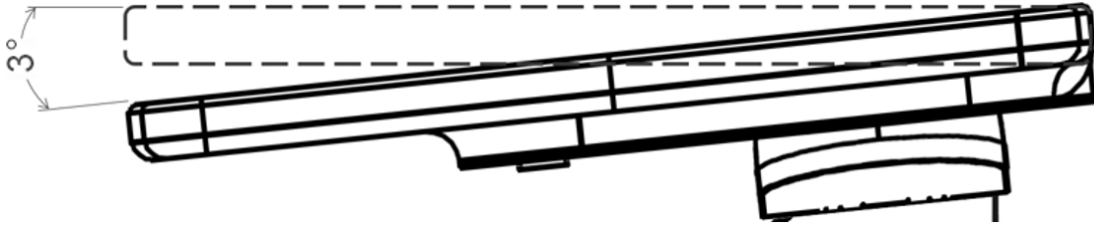

Figure 13: Tilting the ODU forward to 3-degrees
9. The stanchion is adjustable and allows for pivoting around the lower bolts. These bolts were installed first in step 6 when connecting to the mount and left loose enough to allow pivoting. The curved slot in the center of the stanchion on either side controls the angle of the stanchion, which can be locked in place using the proper bolts. The ODU requires 3-degrees of forward tilt where forward is the direction away from the bridge along the short side of the panels (shown in Figure 13). An inclinometer must be used to ensure the ODU is at the desired 3-degrees forward tilt, after which all four bolts may be tightened to their required torque values.